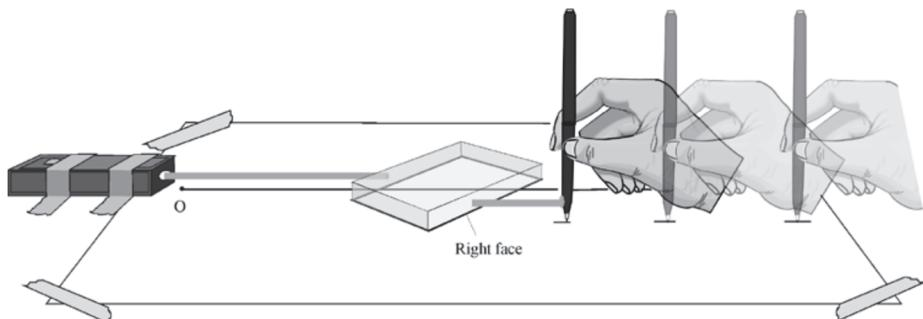

Figure 5 – Refracted Beam Drawing Illustrated
4. Turn the laser diode module on. The beam is refracted by the block and should exit it through the right face. Move your pencil along the right edge of the paper until you find the beam. Mark the location of this exit beam at five or six places on the paper just as you did for the beam in step 2. Refer to Figure 5.